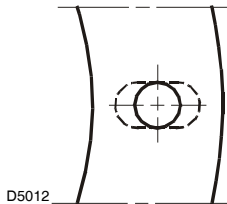

Fig. 6
- Widen, if necessary, the insulating gasket holes 5)(Fig. 6).